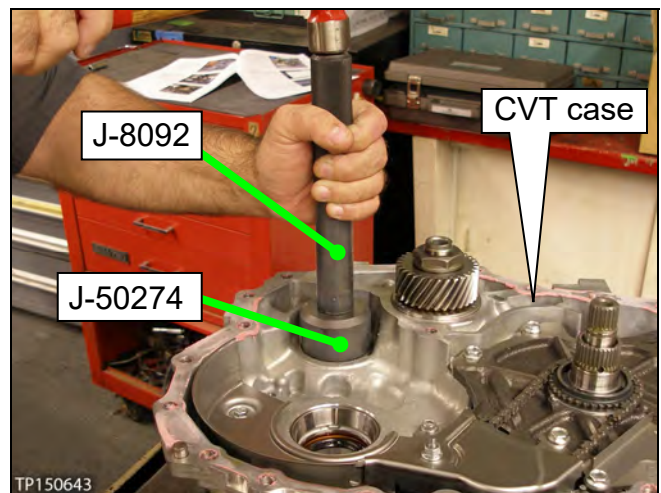

Figure 66
2. Install the new outer races using Race Installer J-50274 from Tool Kit J-50255, and Driver handle J-8092 (see Figure 66 and 67).
**NOTE:** The tools shown in Figure 66 and 67 are similar but may not look exactly the same as J-50274 and J-8092.